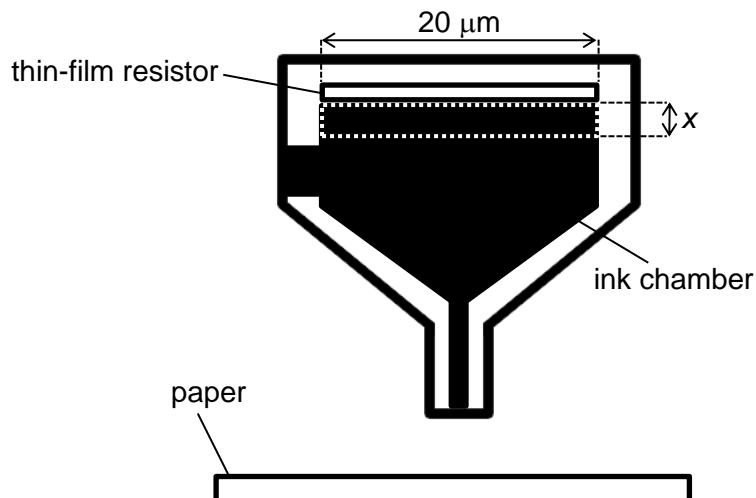

Fig. 8.5
- (c) In a thermal inkjet printer, a constant current of 0.50 A is passed through the thin-film resistor for a short time interval of 0.010 μ s. This causes a square layer of ink below the thin-film resistor of thickness x to heat up and vaporise. This is shown in Fig. 8.5.